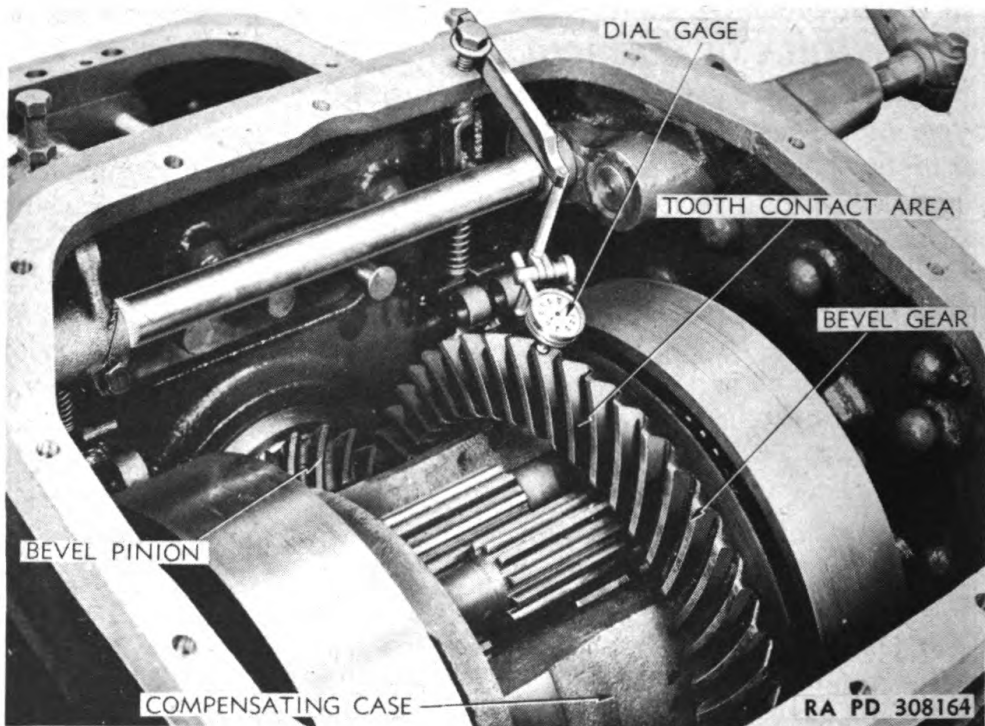

Figure 62 — Bevel Pinion and Gear Adjustment, Using Dial Indicator (41-I-100)
(1) **ADJUST FOR CORRECT TOOTH CONTACT OF PINION WITH GEAR.** Change shims behind differential carriers as explained in following step (2) to obtain 0.012- to 0.015-inch backlash between bevel pinion and gear. Coat several of the bevel pinion teeth with Prussian blue or similar material, engage the creeper pinion with creeper gear, and turn the transmission input shaft in a clockwise direction. Then observe the blue marks left on the bevel gear teeth by the pinion. The most desirable tooth contact area when tested in this manner is from the center of the tooth to the inner end as shown in figure 62. It will not always be possible to obtain this contact, however, the pinion may be moved in or out a maximum of 0.080 inch to obtain as nearly correct contact as possible by the removal or addition of shims behind snap ring on rear pinion shaft bearing as explained in paragraph 20 d (2). To move pinion and bearings back for removal of the snap ring, insert pry bar between the end of the pinion and one of the center sections of the differential compensating case. **CAUTION:** *Do not pry against the differential pinions.* Speedometer drive housing must be installed and cap screws tightened each time before checking above adjustment.
Mount a dial gage on differential case as shown in figure 62 to check backlash, then adjust gear to pinion by changing shims under differential bearing carriers from one side to the other until correct adjustment is obtained. If there is too much backlash, remove shims from left bearing carrier and add the same shims removed to those under right bearing carrier. If there is not enough backlash, shims must be removed from right bearing carrier and these same shims added to those under left bearing carrier. This procedure must be used so the adjustment of the differential bearings will not be changed. The cap screws in differential bearing carriers must be tightened firmly after shims are changed before backlash is checked. After correct adjustment of backlash is obtained thread lock wire through heads of differential bearing carrier cap screws.